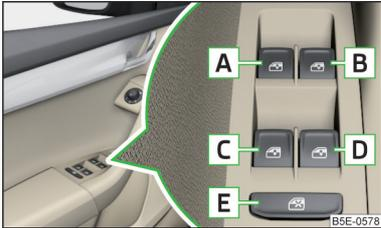

Fig. 42
Electric window buttons » Fig. 42
- After the driver or front passenger door is opened, the operation of the window is only possible with the button **A** » Fig. 42, in which case this is pressed or pulled for approx. 2 seconds.
- ▶ **or:** Switch off the ignition, open the driver's door and hold the key  until it stops in the open position » Fig. 42 on page 60.
- ▶ **or:** Switch off the ignition, open the driver's door and press and hold the button  until the window stops in the closed position » Fig. 42 on page 60.